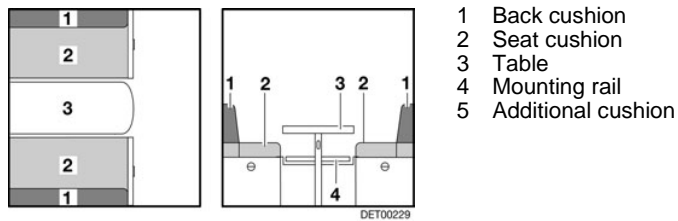

Fig. 38 Prior to conversion
- Convert the table (Fig. 38,3) to a bed foundation (see section 7.9).
- Attach the table to the lower mounting rail (Fig. 38,4).